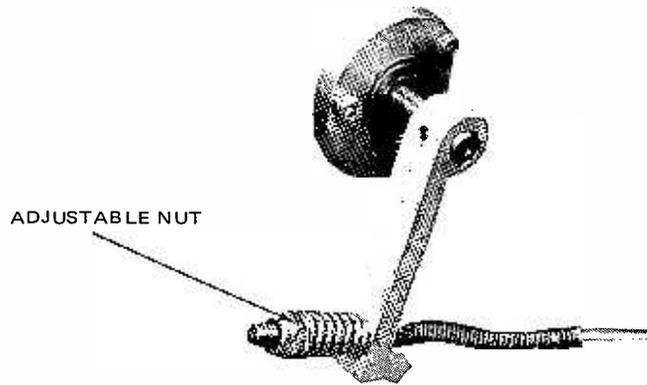

Figure 5-9. Pinchroller Adjustment
7. If the reading is not within the limits stated in step 6, adjust the nut at the end of the solenoid arm (see Figure 5-9) to obtain the proper setting.